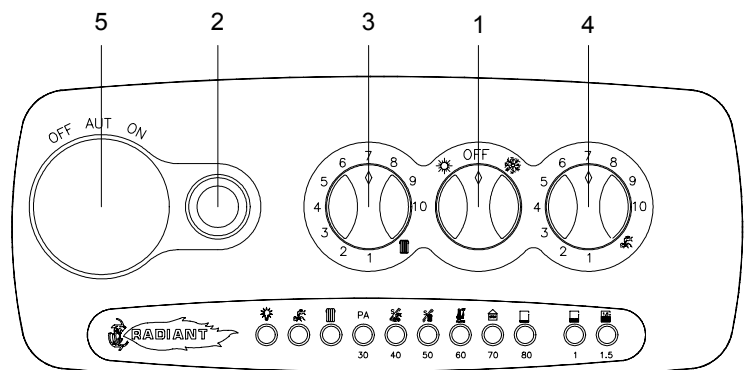

Fig. 1
- ⇒ **The anti-freeze system will come into operation only if the boiler is in the winter (❄) or summer (☀) position (with selector switch 1 in fig. 1 turned to the summer or winter position) and the gas supply turned on. The manufacturer can accept no responsibility for damage to the boiler caused by lack of observation of these requirements.**
LEGEND (see fig. 1)
It may be necessary to repeat the procedure a few times to purge air from the pipes. To repeat the ignition procedure press release button 2 (see fig. 1) and then try the ignition procedure once again. If the boiler does not start, press the reset button (see fig. 1). **IMPORTANT** should the boiler fail to ignite wait 3 minutes before pressing button again.
### Turning off boilers with electronic ignition (see fig. 1 pag. I).
### Summer-winter use (see fig. 1 pag. I).
### REGULATING THE HEATING TEMPERATURE (see fig. 1 pag. I).
### REGULATING THE HOT WATER TEMPERATURE (see fig. 1 pag. I).
If boiler locks-out (fig. 1 page I, indicator no.2 ON) proceed as follows:
- press red reset button (2) (fig.1 page I)